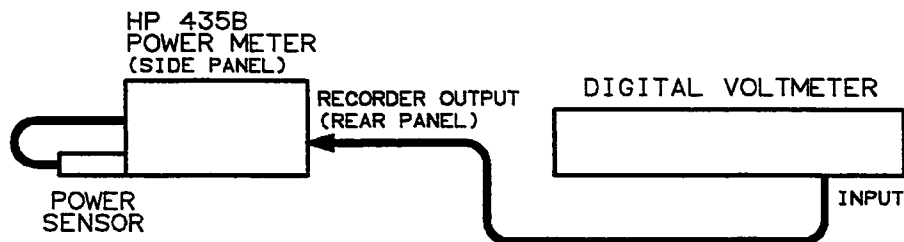

Figure 5-4. Power Meter Adjustment Setup with 50Ω Power Sensor
4. Remove the right side cover of the power meter and connect the equipment as shown in Figure 5-4.
5. Set the LINE switch to (ON).